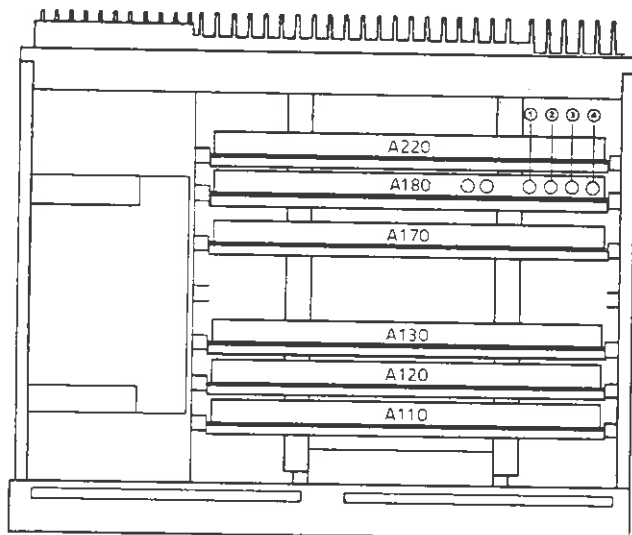

Fig. 4-7 Position of the adjustment points for the module DETECTOR BOARD
- ▶ Turn the potentiometer "METER FULL SCALE" R654 ⊗ (fig. 4-7) such that the indication of the instrument is identical with the 50-dB mark.